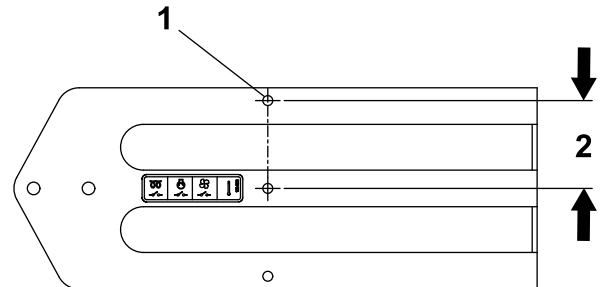
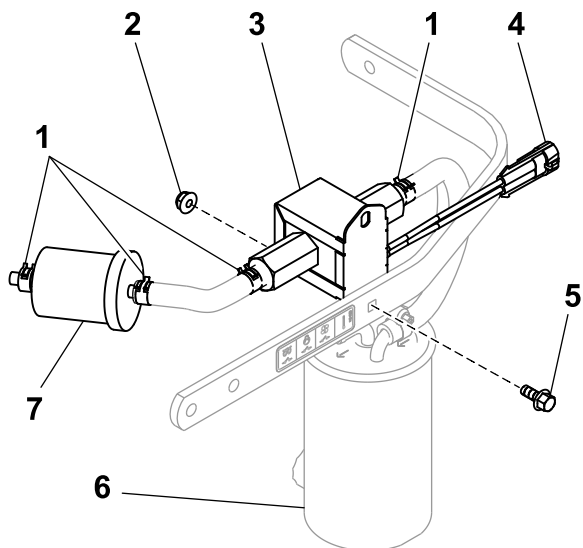
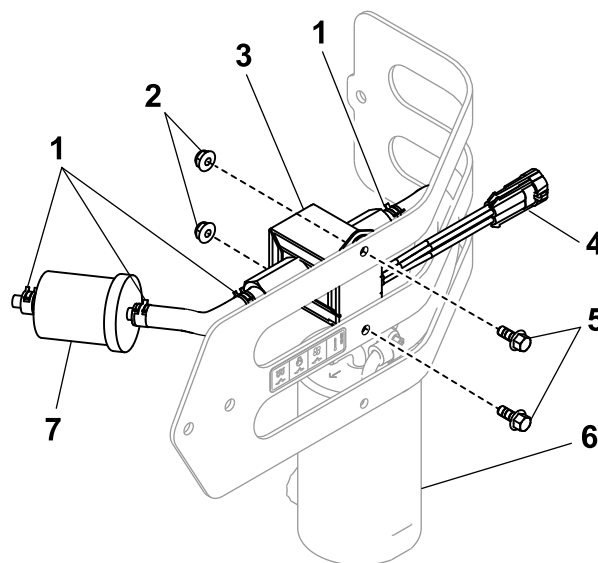

Figure 14
Figure 15
Figure 16
Use Figure 1, Figure 14, Figure 15, and Figure 16 for this procedure.
4. For international machines only, locate, mark, and drill a hole (9/32 inch) into the guard as shown in Figure 14 and Figure 16.
5. For domestic machines, install the new fuel pump using the bottom hole in the pump with a bolt (1/4 x 5/8 inch) and a locknut (1/4 inch); refer to Figure 15. Only one nut and bolt is used for domestic machines.
6. For international machines, install the new fuel pump using both holes in the pump and secure it with 2 bolts (1/4 x 5/8 inch) and 2 locknuts (1/4 inch); refer to Figure 16.